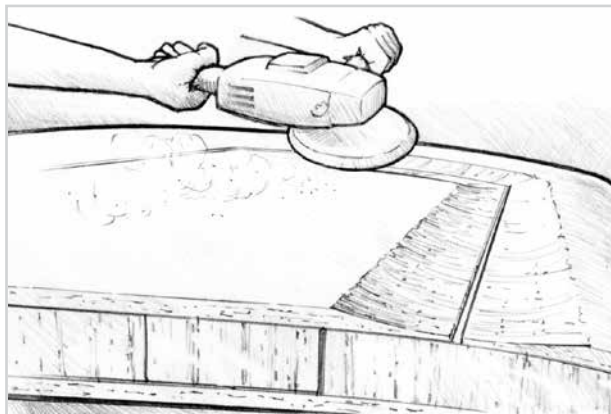

Figure 5-7 *Grind a 12- to-1 bevel on the edges of the joint, so the joint repair patch can be faired flush with the surface.*
4. Grind a 12-to-1 bevel on both edges of the joint and laminate a repair patch over the joint to restore skin continuity (Figure 5-7). The bevel will provide a recessed bonding area for the application of fiberglass fabric and allow the patch to be faired flush with the surface. The objective and procedure for patching the joint are the same as repairing damaged skins. Follow the procedure described in Section 5.3.5.